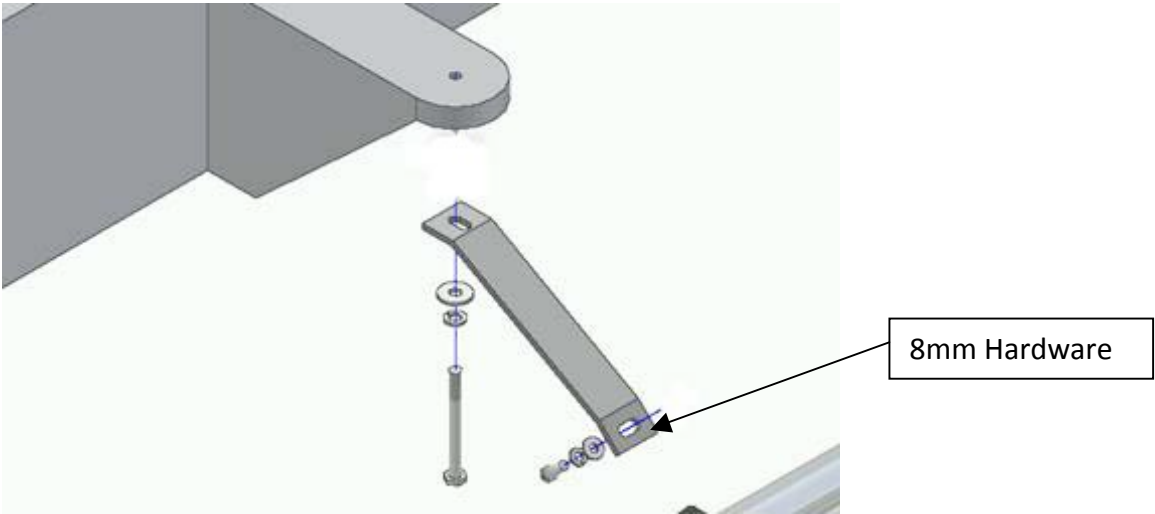
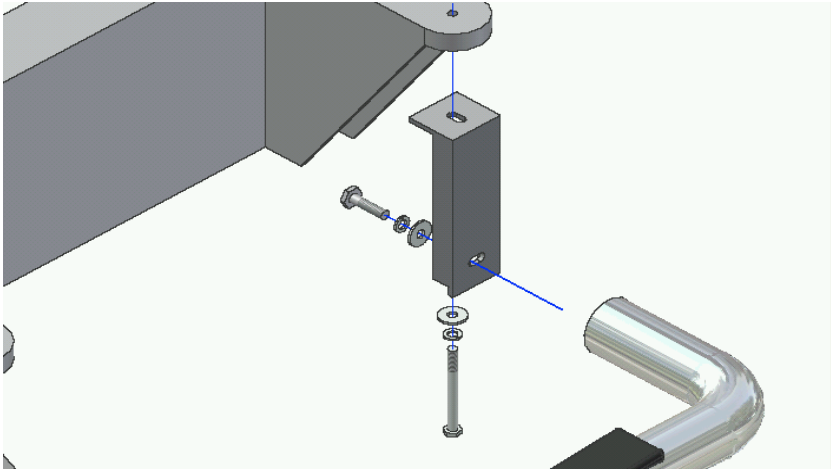

Figure 1.3 – Center Brace
Figure 1.4 – Rear Bracket
3. Attach and secure Rear Mount Bracket to underside of vehicles rear body mount as shown in Figure 1.4, in same manner as the front. Repeat for Center Brace, (see Figure 1.3).
4. Attach Side Tube to Front and Rear Brackets using (1) ½" x 2" bolt, (1) ½" lock washer and (1) ½" flat washer for each bracket and hand tighten. Fasten Center Brace to Side Tube using (1) 8mm x 25mm Hex Bolt, (1) 8mm Lock Washer and (1) 8mm Flat Washer. Adjust Side Tube so that it is level and centered, and tighten all bolts to complete the driver-side assembly.